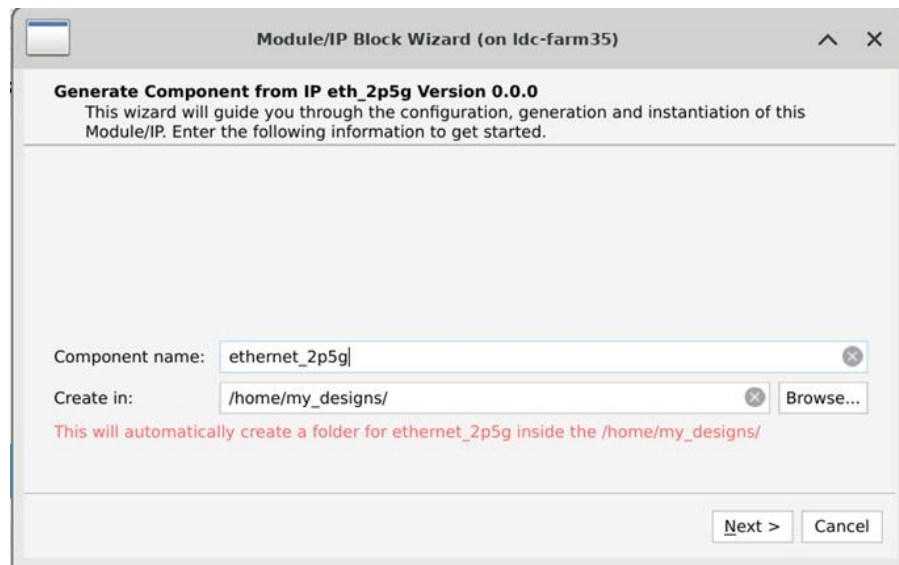

Figure 7.1. Module/IP Block Wizard
- Click **Finish**. All the generated files are placed under the directory paths in the **Create in** and the **Component name** fields shown in Figure 7.1.